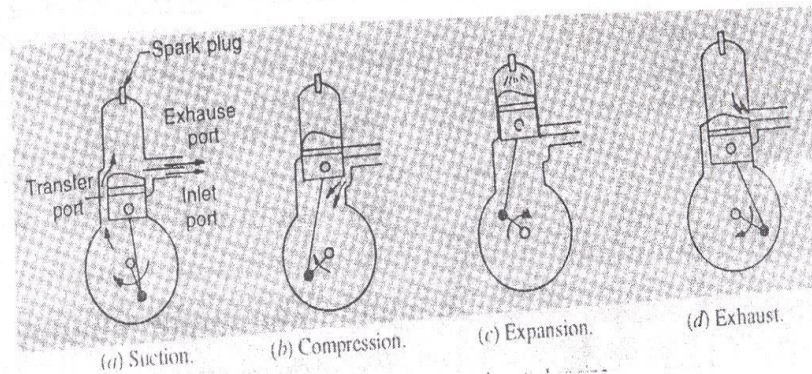

Figure-3: Two – Stroke cycle petrol Engine
- 1) **Suction stage:** In this stage, the piston, while going down towards BDC, uncovers both the transfer port and the exhaust port. The fresh fuel-air mixture flows into the engine cylinder from the crank case, as shown in the Figure-3(a).
- 2) **Compression stage:** In this stage, the piston, while moving up, first covers the transfer port and then exhaust port. After that the fuel is compressed as the piston moves upwards as shown in the Figure-3(b). In this stage, the inlet port opens and fresh fuel air mixture enters into the crank case.
- 3) **Expansion stage:** Shortly before this piston reaches the TDC (during compression stroke), the charge is ignited with the help of a spark plug. It suddenly increases the pressure temperature of the products of combustion. But the volume, practically remains constant. Due to rise in the pressure, the piston is pushed downwards with a great force as shown in Figure-3(C). The hot burnt gases expand due to high speed of the piston. During the expansion, some of the heat energy produced is transformed into mechanical work.
4) Exhaust stage: In this stage, the exhaust port is opened as the piston moves downwards. The products of combustion, from the engine cylinder are exhausted through the exhaust port into the atmosphere, as shown in the Figure-3(d). This completes the cycle and the engine cylinder is ready to suck the charge again.